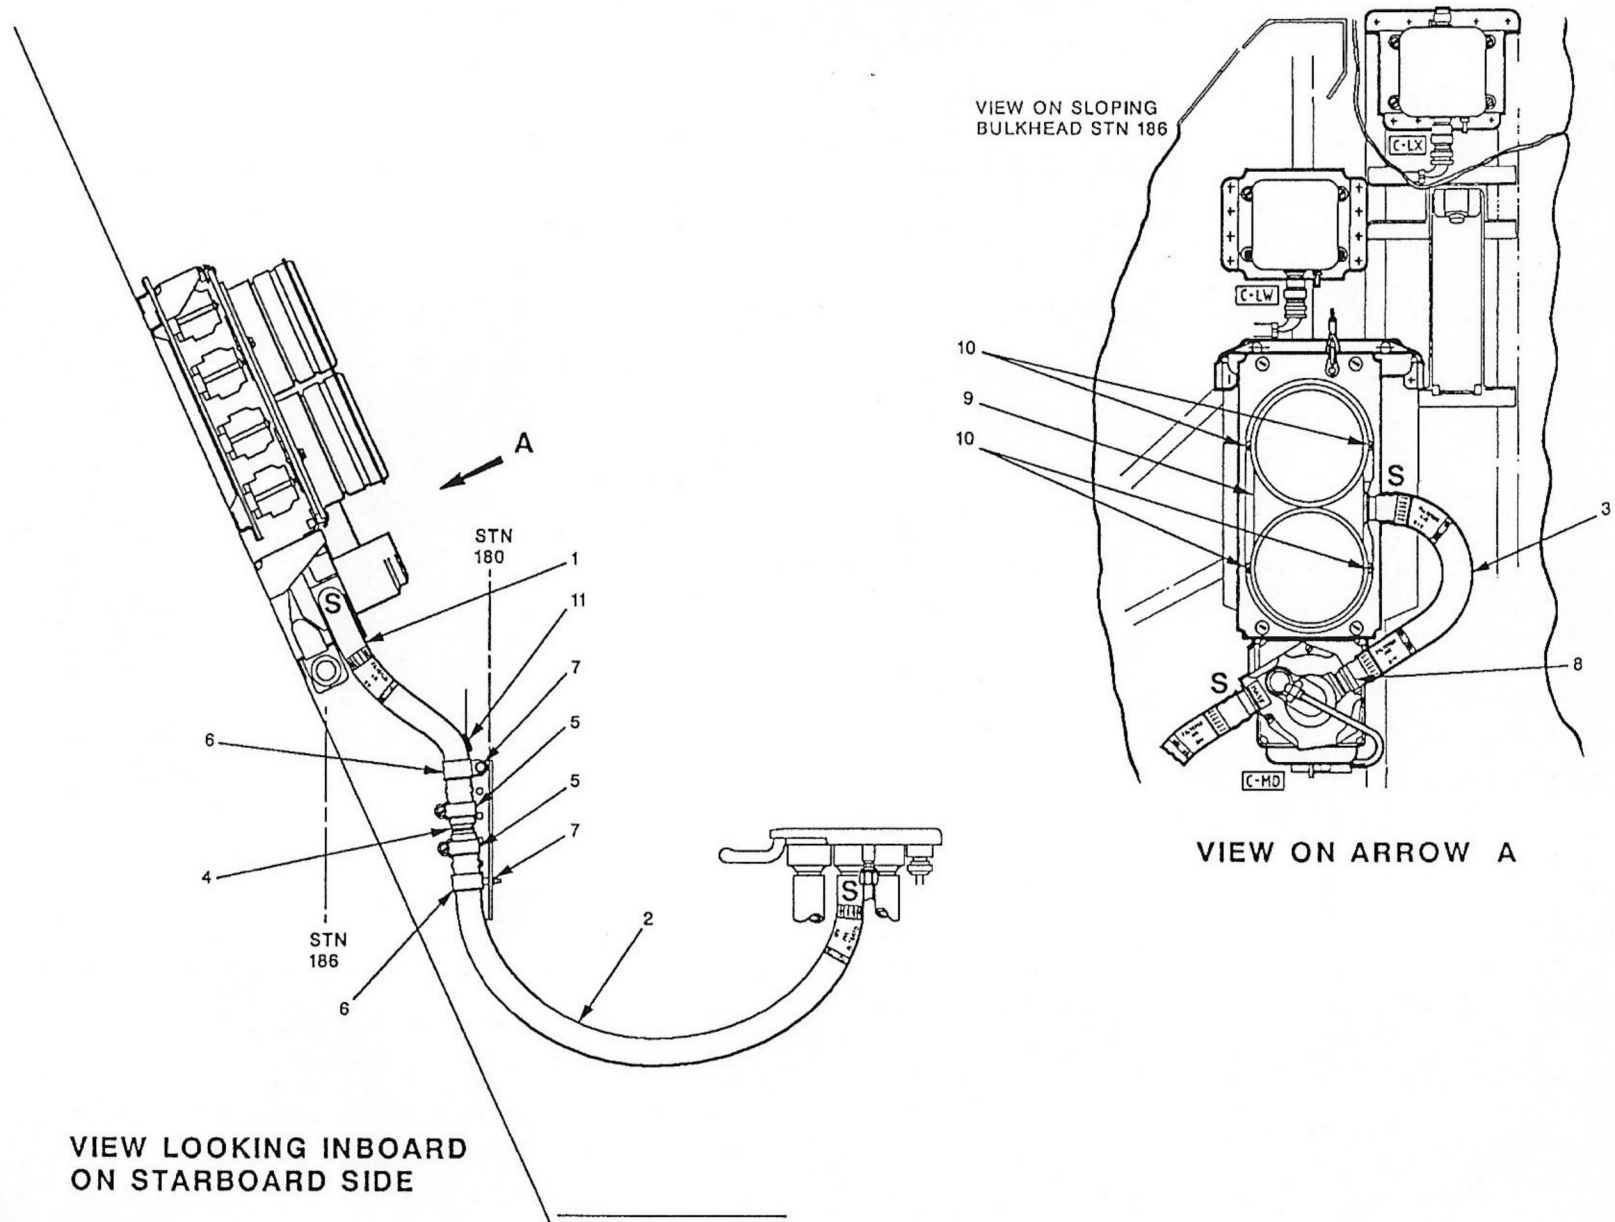

Fig.4 Navigators NBC protection system
14. Navigator's installation (Fig.4)